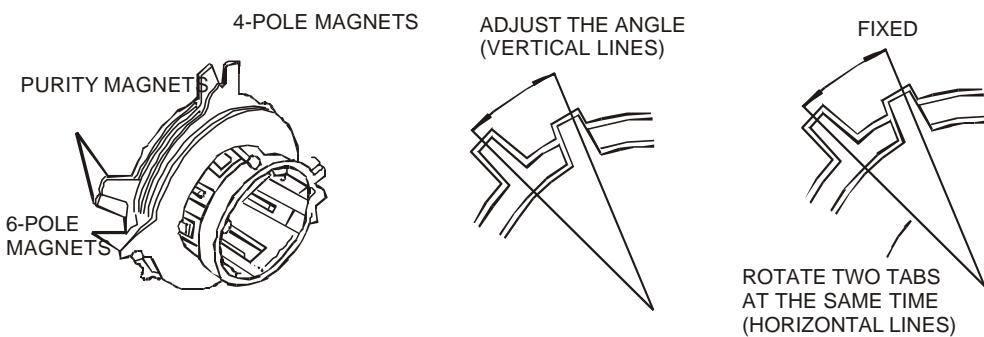

Figure 9
- f. Rotate and spread the tabs of the purity magnet (See Fig. 9 around the neck of the picture tube until the green belt is in the center of the screen. At the same time center the raster vertically.
- c. Adjust two tabs of the 4-Pole magnets to change the angle between them (See Fig.9) and superimpose red and blue vertical lines in the center area of the picture screen (See Fig. 10).